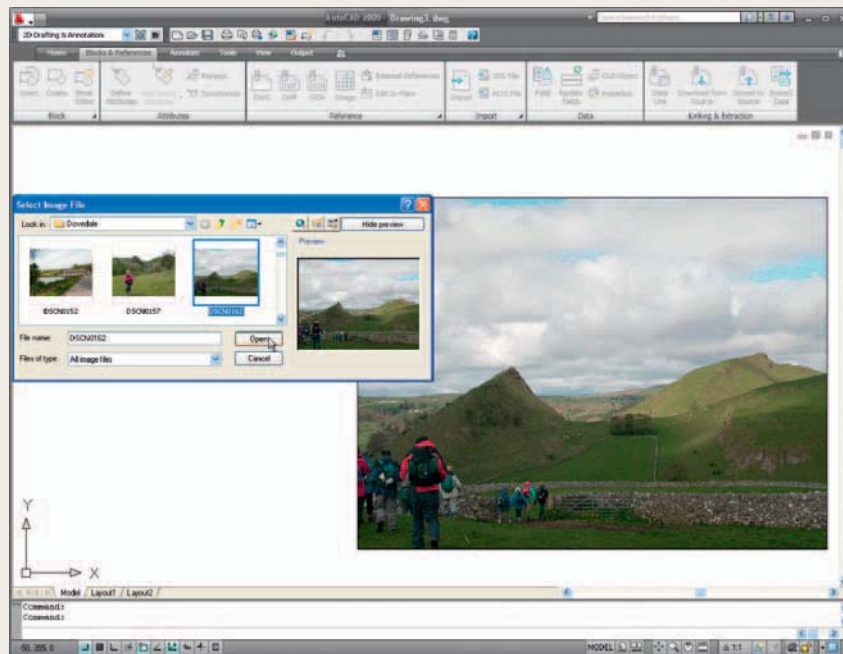

Fig. 10.30 Exercise 3 – an example
3. Click **Image...** in the **Reference** panel and insert a **JPEG image (*.jpg file)** of a photograph into the AutoCAD 2010 window. An example is given in Fig. 10.30.